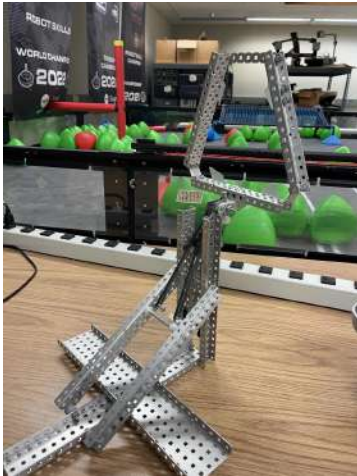

Figure 3: Passive Loading Catapult Prototype
- To begin implementing the Triball catapult, **our team will begin to design the catapult in CAD** while developing the prototype as seen in figures 3 and 4 further to ensure the design remains viable.